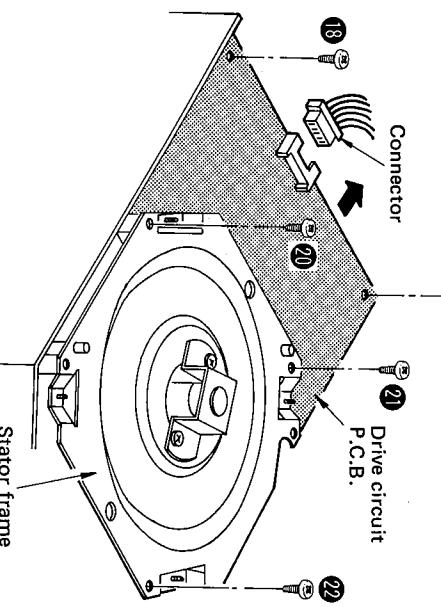

Fig. 6
2. Remove the 5 setscrews (Fig. 6 : ⑯ ~ ㉑) of the drive circuit P.C.B. and stator frame.